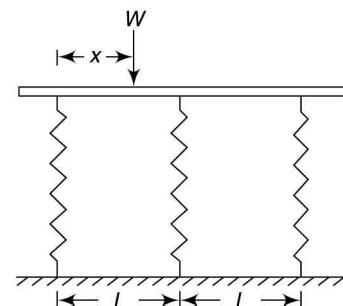

Fig. 11.4
**Example 11.13** || A load  $W$  is transmitted to a combination of three springs through a weightless bar as shown in Fig. 11.4. All the springs are made from the same bar of steel and are of the same length initially. The number of coils in the three springs are 20, 24 and 30 and the mean diameters are in the ratio 5:6:7 respectively. Determine the value of  $x$  so that the bar remains horizontal after applying the load.
**Given** A composite spring having two close-coiled helical springs in series as shown in Fig. 11.4.